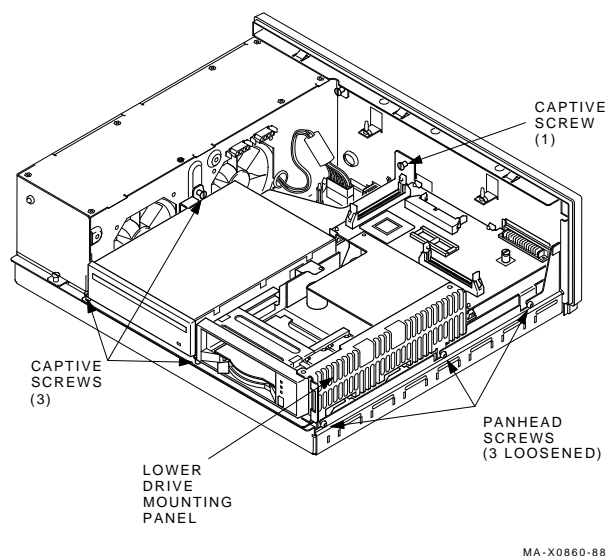

Figure 6-11 Unscrewing the Lower Drive Mounting Plate
3. Unscrew the seven screws (Figure 6-11).
1. Position the lower drive mounting plate (Figure 6-11) and tighten the seven screws.